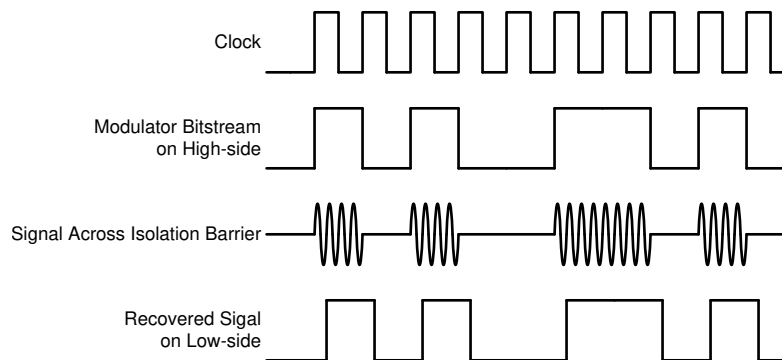

Figure 7-3. OOK-Based Modulation Scheme
The AMC3306M25 uses an on-off keying (OOK) modulation scheme, as shown in Figure 7-3, to transmit the modulator output bitstream across the SiO₂-based isolation barrier. The transmit driver (TX) illustrated in the Functional Block Diagram transmits an internally generated, high-frequency carrier across the isolation barrier to represent a digital one and does not send a signal to represent a digital zero. The nominal frequency of the carrier used inside the AMC3306M25 is 480 MHz.
Figure 7-3 shows the concept of the on-off keying scheme.